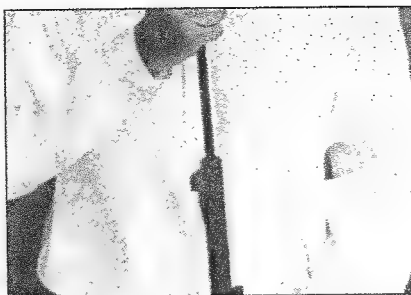

Figure 7
13. With ramrod, push projectile down on top of powder, firmly, but without crushing the powder. (See Figure 7).